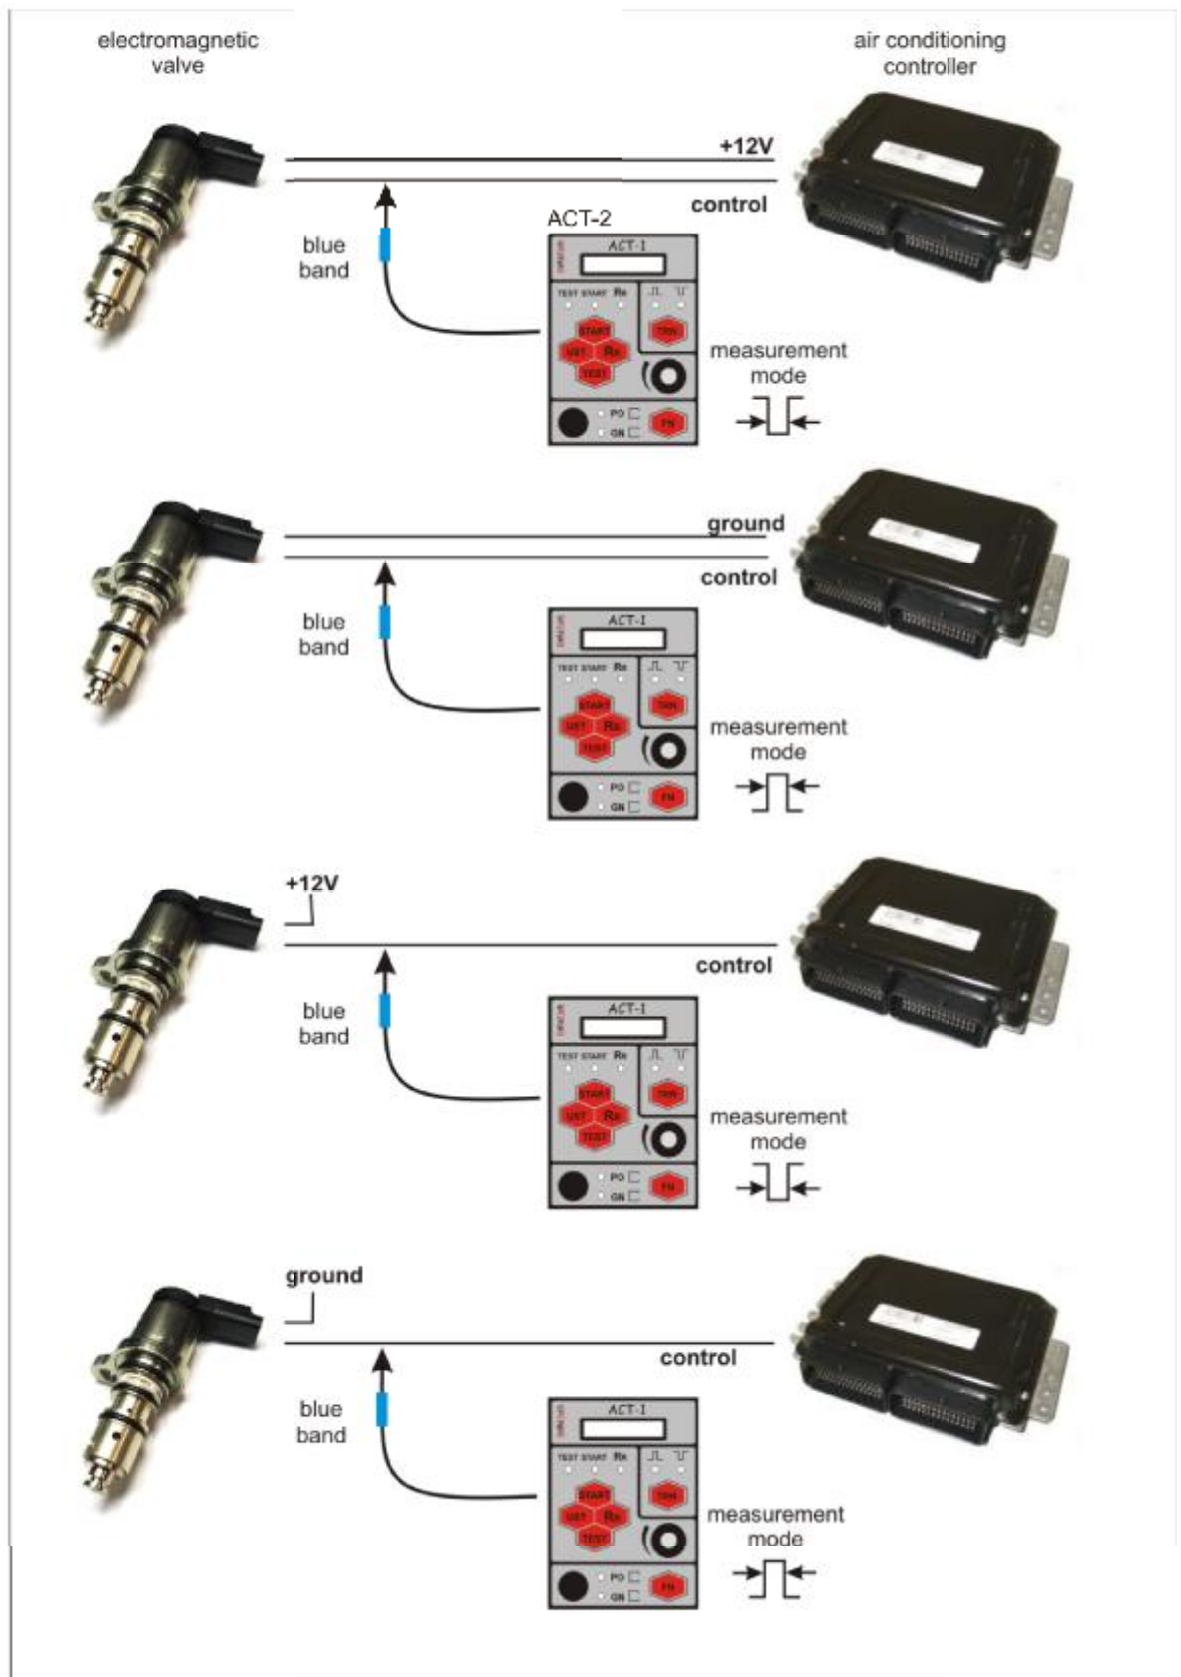

Figure 5.1
Connection diagrams depending on type of valve connection to vehicle electrical system are shown in Figure 5.1.
Measurement module detects signal change connected to cable marked with blue band (see Fig. 5.1). If the signal exceeds 2.5V it is interpreted as a high state. Lower voltage means low state.
1. Depending control signal mode attach connection cables according to Figure 5.1.